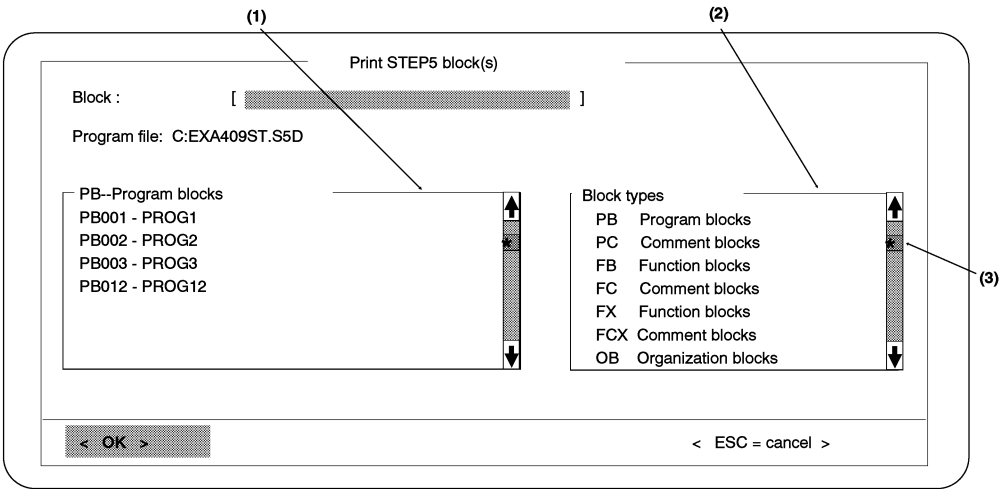
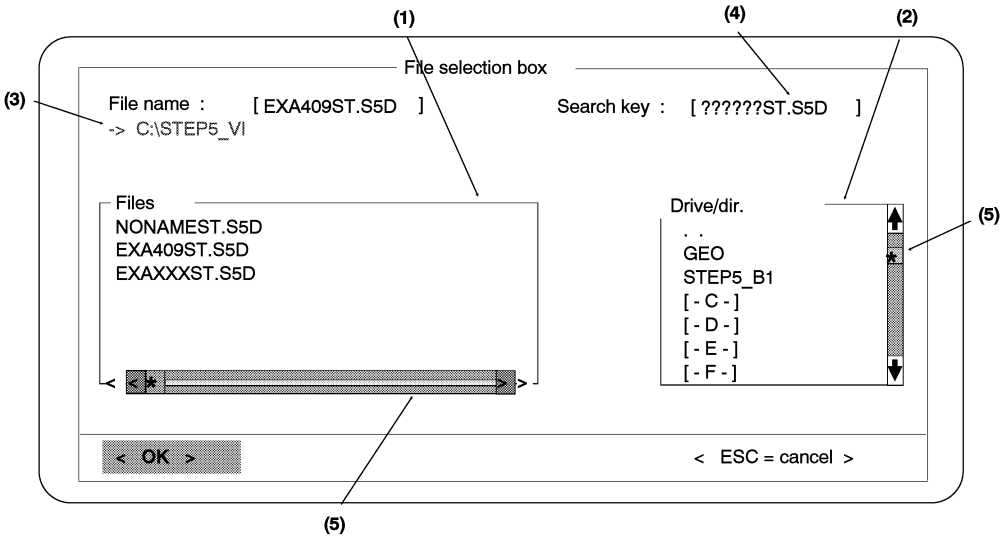

Fig. 3-6: Example of a Block Selection Box
Fig. 3-7: Example of a File Selection Box
- Block selection boxes as shown in Fig. 3-6.
- File selection boxes as shown in Fig. 3-7.
If the cursor is positioned in a name field (Fig. 3-5) and you press the **F3** key, a block or file selection box is displayed. In these boxes (Fig. 3-6/Fig. 3-7) you can select an object directly for processing.